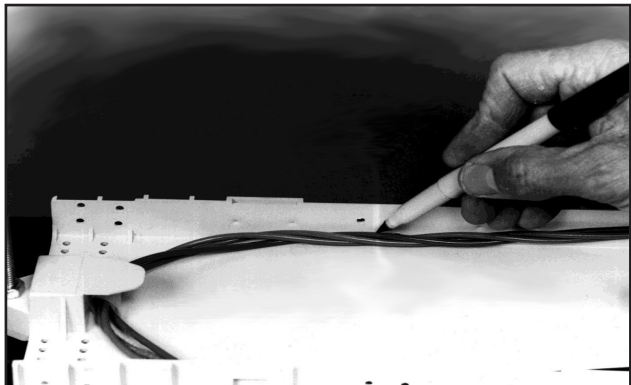

FIGURE 2- MARK THE FIBERS FOR BOTTOM CABLE ENTRY
- 5.05 Install the small Transition Assy(s) within the rear section. In the WTC72 Cabinet, install the Transition Assembly on the upper set of 1/4" PEM nuts for a cable entering from the bottom of cabinet and on the lower set of nuts for a cable entering the top. (Figure 2)
- 6.05 Mark fibers at the back wall centerline of the Transition Assembly as shown in Figure 2.